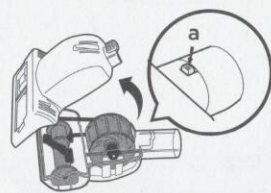

Fig. 26
- 1 Slide the locking latch (a) forward and lift off the brushroll housing. (Fig. 26)